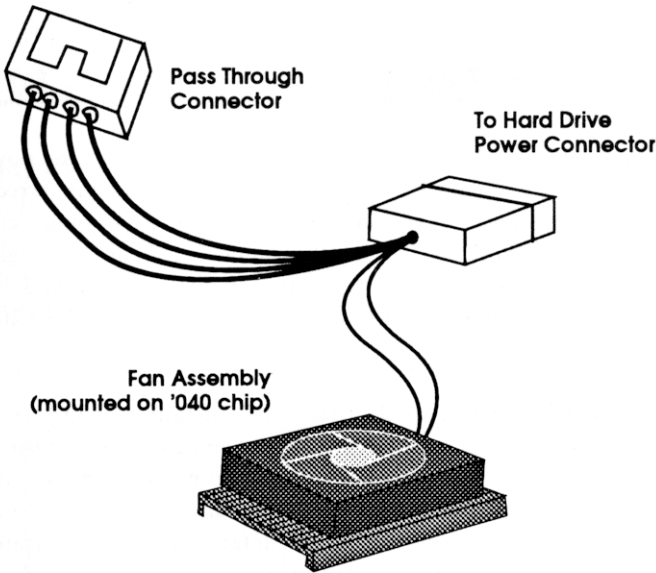

Figure 4.5 – '040 cooling fan with “Y” connector.
- 11) The power lead from the cooling fan attaches to a hard drive-style nylon power connector (see Figure 4.5). It includes a "Y" pass-through, so that no hard drive connections will be lost.